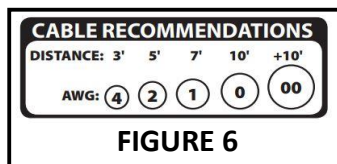

FIGURE 6
- 5) **WIRING CONNECTIONS:** Ensure power cable is sufficient size and in good condition (See Figure 6). Attach battery cable and starter ignition wire to corresponding post on solenoid (Figure 5).